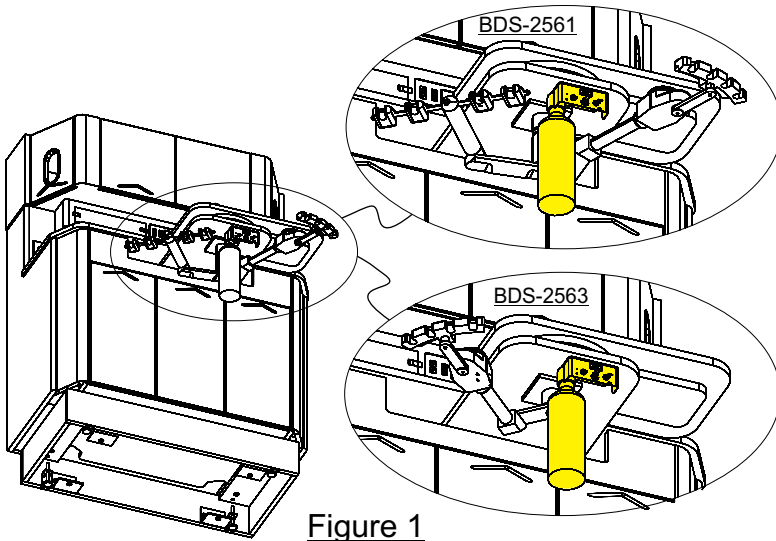

Figure 1
Place Mounting Ring (A), Large Rubber Washer (B), Glass Bowl (C) aligned over the hole in the counter top. Insert the Drain Assembly (E) with the Small Rubber Washer (D) through the hole in the Glass Bowl. (see Figure 1).
See Figure 1